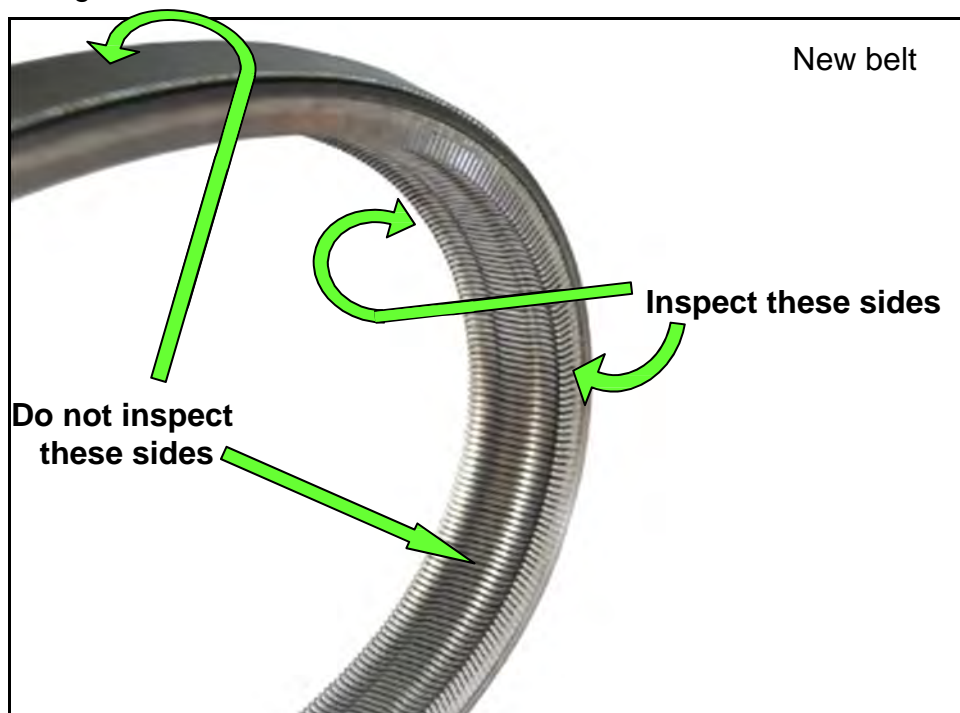

Figure 8
15. Using the steps on pages 8-12, inspect the entirety of the two sides of the belt that come in contact with the pulleys (see Figure 8):